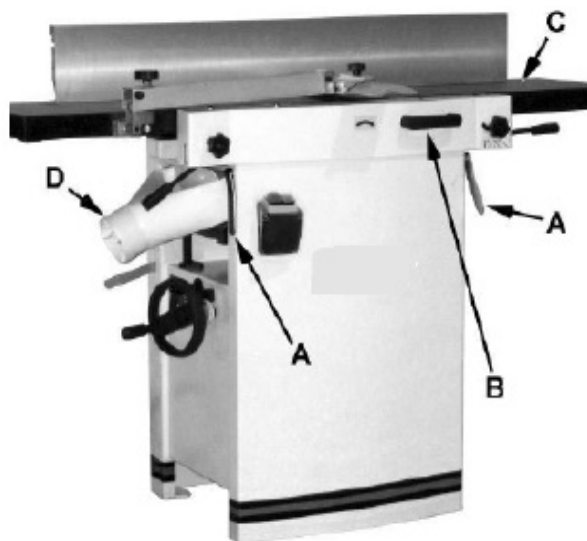
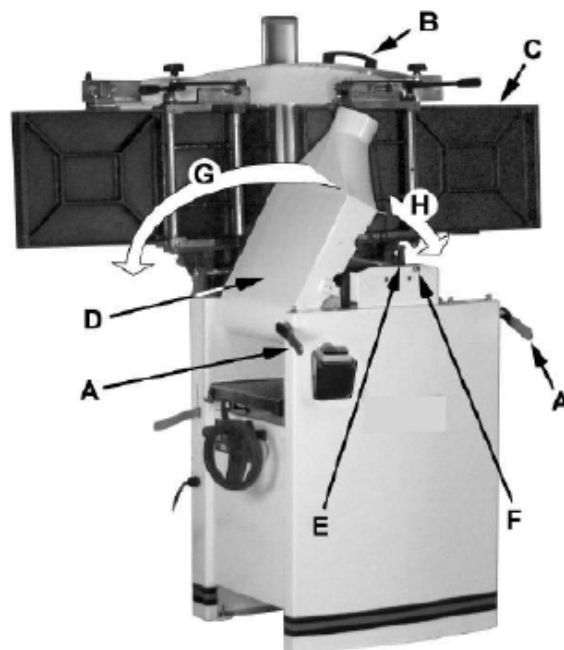

Fig. 5: Operating elements
Fig. 6: Conversion to thickness function
Step 1: Release both housing locks (Pos. A, Fig. 5) by rotating the handles toward the operator, then pulling away from the machine.
Step 2: Raise the table (Pos. C, Fig. 5) using the handle (Pos. B, Fig. 5).
When raised, the table should be in the vertical position as shown in Fig. 6, Pos. C. The latch (Pos. E, Fig. 6) should be engaged, preventing the table from an accidental forward fall.
Step 3: Position the dust chute (D, H Fig. 6) to the right.
Step 1: Pull the release knob (Pos. F, Fig. 6) and reposition the dust chute (Pos. D & Pos. G, Fig. 6) to the left. It should be positioned as shown in Fig. 5, Pos. D).
Step 2: Release the latch (Pos. E, Fig. 6) and bring the table forward using the tilt handle (Pos. B, Fig. 6). It should be positioned as shown in Fig. 2, Pos. C.
Step 3: Lock the table (Pos. C, Fig. 6) by pushing the lock handles (Pos. A, Fig. 6) in toward the machine and rotating down (away from the operator).